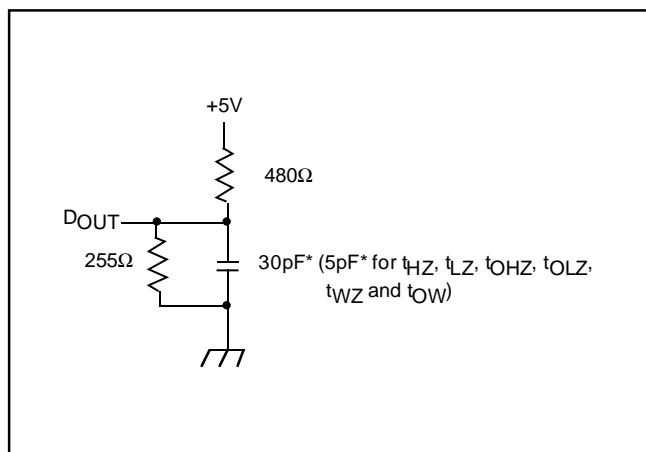

Figure 1. Output Load
- 9. Transition is measured ± 200mV from steady state voltage prior to change, with loading as specified in Figure 1.
Output Load	See Figures 1 and 2